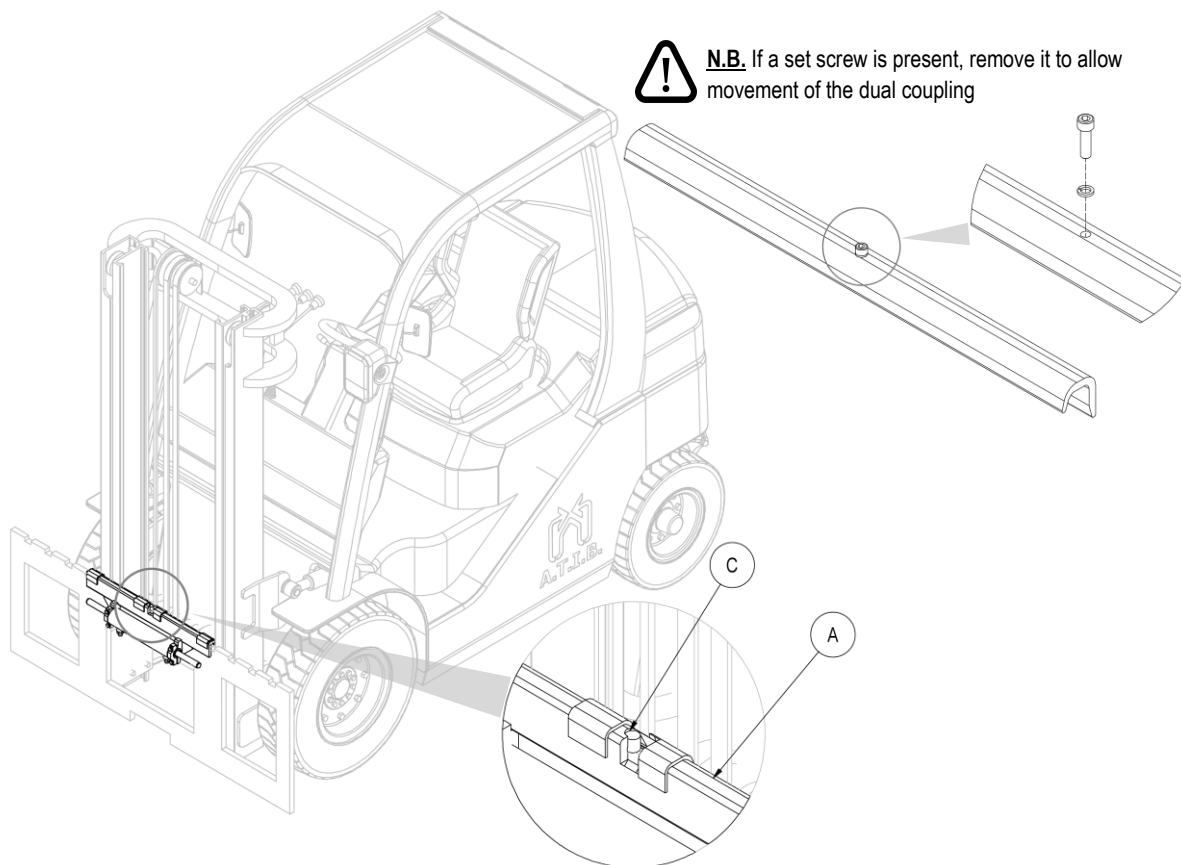

Figure 6
4. Obtain the dual coupling **A** (with its sliding bushes and sideshift cylinder), and position it on the upper profile of the fork carriage, taking care to fit the centring pin **C** into its central notch (see Figure 6).